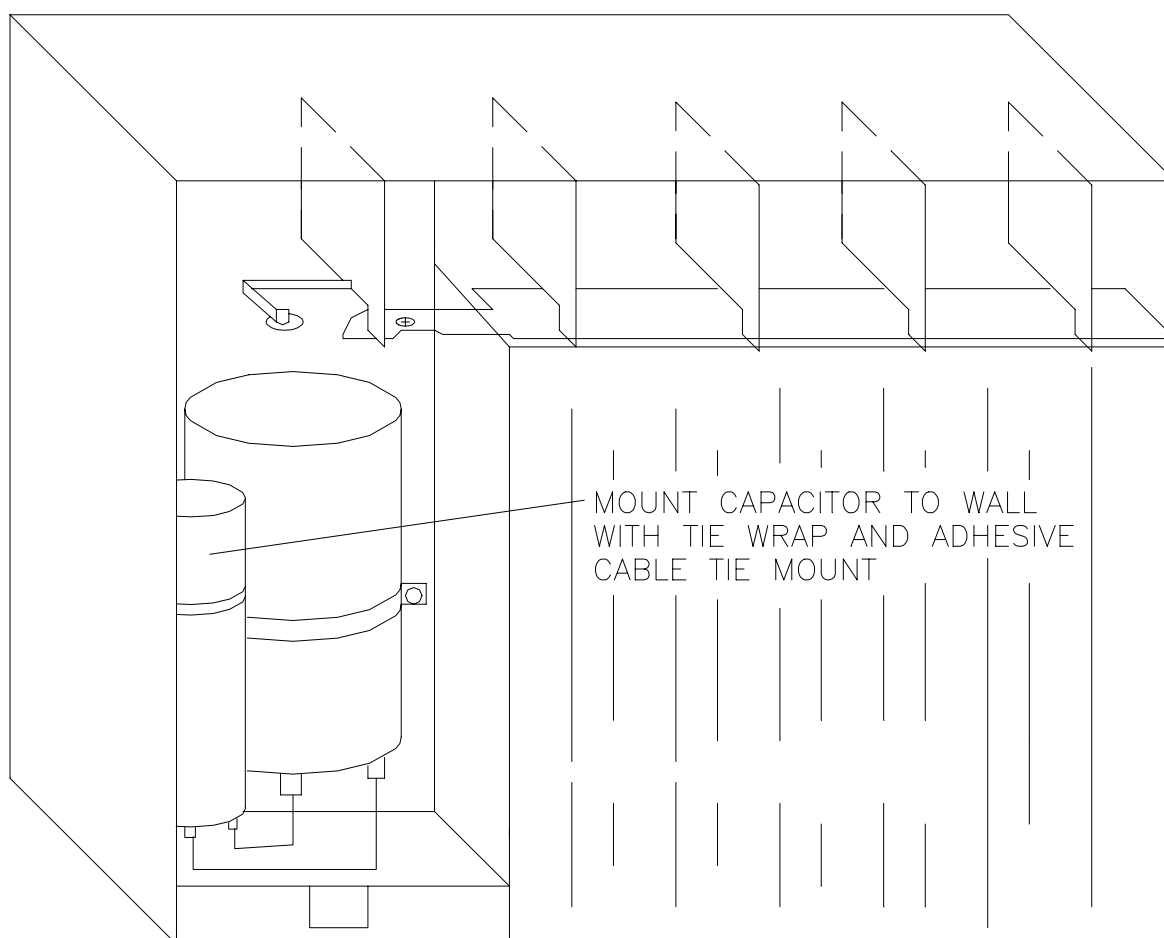

Figure 3-25 Mounting the Hard-Start Kit Inside the ECU
12. Attach an adhesive cable tie mount to the inside of ECU chassis and mount the hard start kit with a nylon cable tie as shown in Figure 3-25.